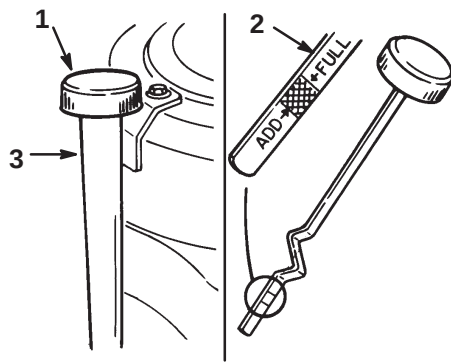

Figure 20
2. Clean around the oil dipstick (Fig. 20) so dirt cannot fall into the filler hole and damage the engine.
3. Unscrew the oil dipstick and wipe the metal end clean (Fig. 20).
4. Slide the oil dipstick fully into the filler tube, do not thread onto tube (Fig. 20). Pull the dipstick out and look at the metal end. If oil level is low, slowly pour only enough oil into the filler tube to raise the level to the full mark.
5. Slowly pour approximately 80% of the specified oil on page 26, into the filler tube (Fig. 20). Now check the oil level; refer to Checking Oil Level, page 26. Slowly add additional oil to bring to full mark on dipstick.